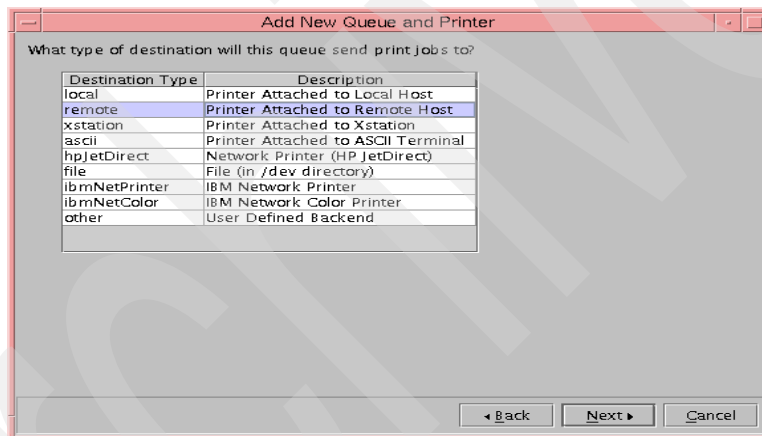

Figure 62. Type of attachment
3. In this example, we defined an IBM 3130 printer attached to a remote host named rs9220b; we named our printer aix3130 and clicked **Next**. The panel in Figure 62 was displayed: